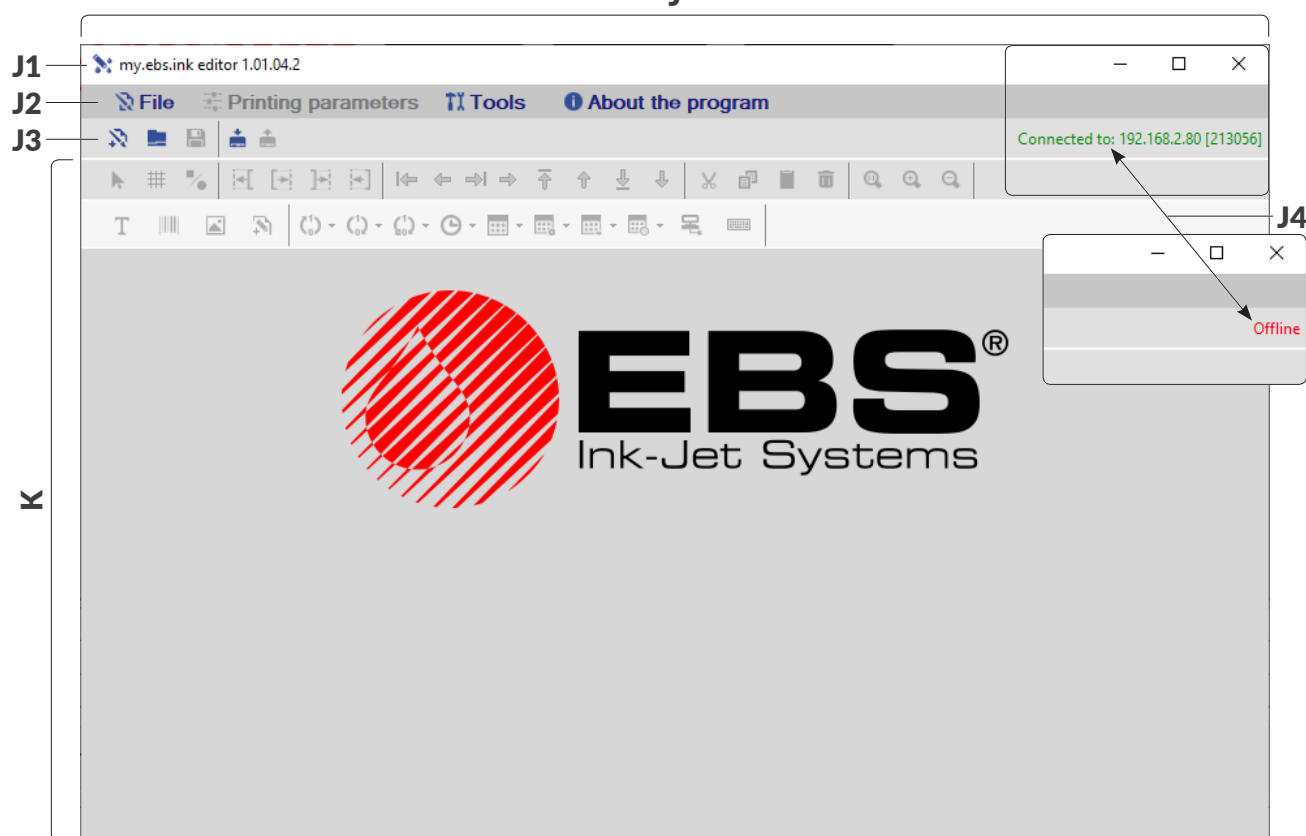

Fig. 9.
When the application starts running, main screen **J** is displayed (see Fig. 9).
Connection status **J4** (see Fig. 9) indicates the mode the **my.ebs.ink® Editor** is in:
The interface language of the **my.ebs.ink® Editor** can be changed by pressing **T** Tools ► **i** Language on menu bar **J2** (see Fig. 9 on page 56).
More detailed information about the **my.ebs.ink® Editor** can be obtained by pressing **i** About the program on menu bar **J2** (see Fig. 9 on page 56).
To close the **my.ebs.ink® Editor** press **F** File ► **E** Exit on menu bar **J2** or **X** on title bar **J1** (see Fig. 9 on page 56).
1. Press  **File** ►  **Create new text** on menu bar **J2** (see Fig. 9 on page 56)
1. Press  **File** ►  **Open text** on menu bar **J2** (see Fig. 9 on page 56)
1. Press  **File** ►  **Download text from printer** on menu bar **J2** (see Fig. 9 on page 56)